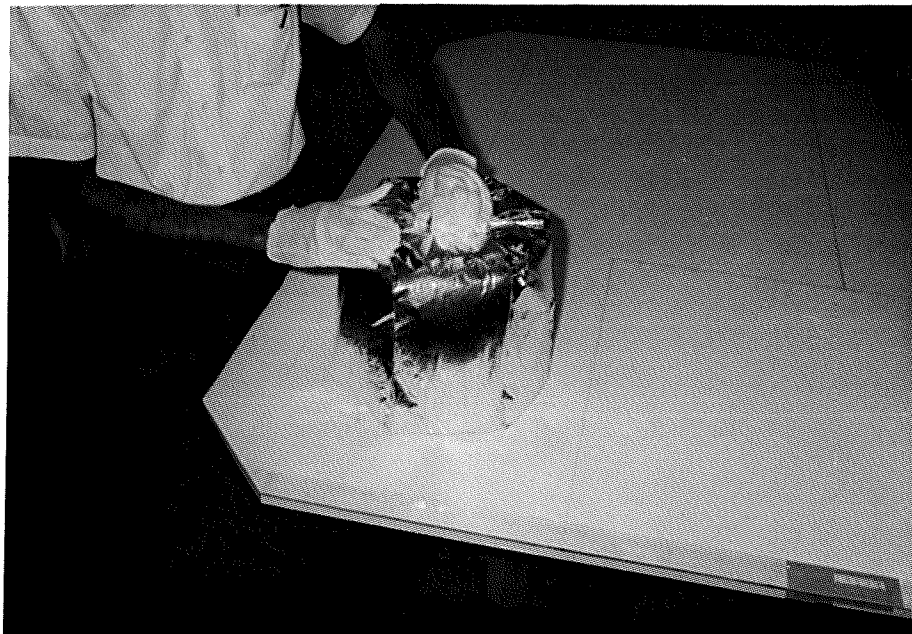

FIG. 10
STEP 8. Bring up sixth point by folding in inside double pleat, maintaining vertical fold lines as in Figure 10.